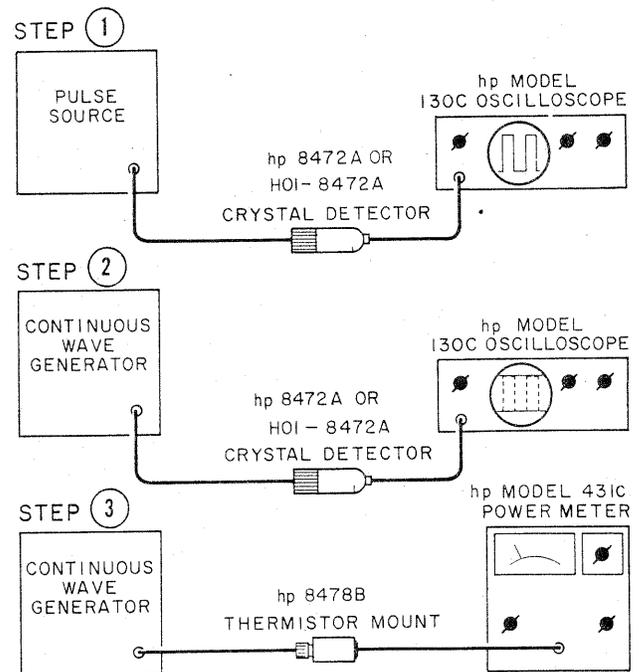

Figure 1. Peak Power Measurement
The arrangement of equipment for peak power measurement is shown in Figure 1. The procedure involves calibration of an oscilloscope which in turn is used to calibrate a CW generator. The output of the calibrated CW generator is measured with a power meter; the peak power of a pulse is thereby measured. The procedure is as follows:
- Connect equipment as shown in Figure 1, step 1.